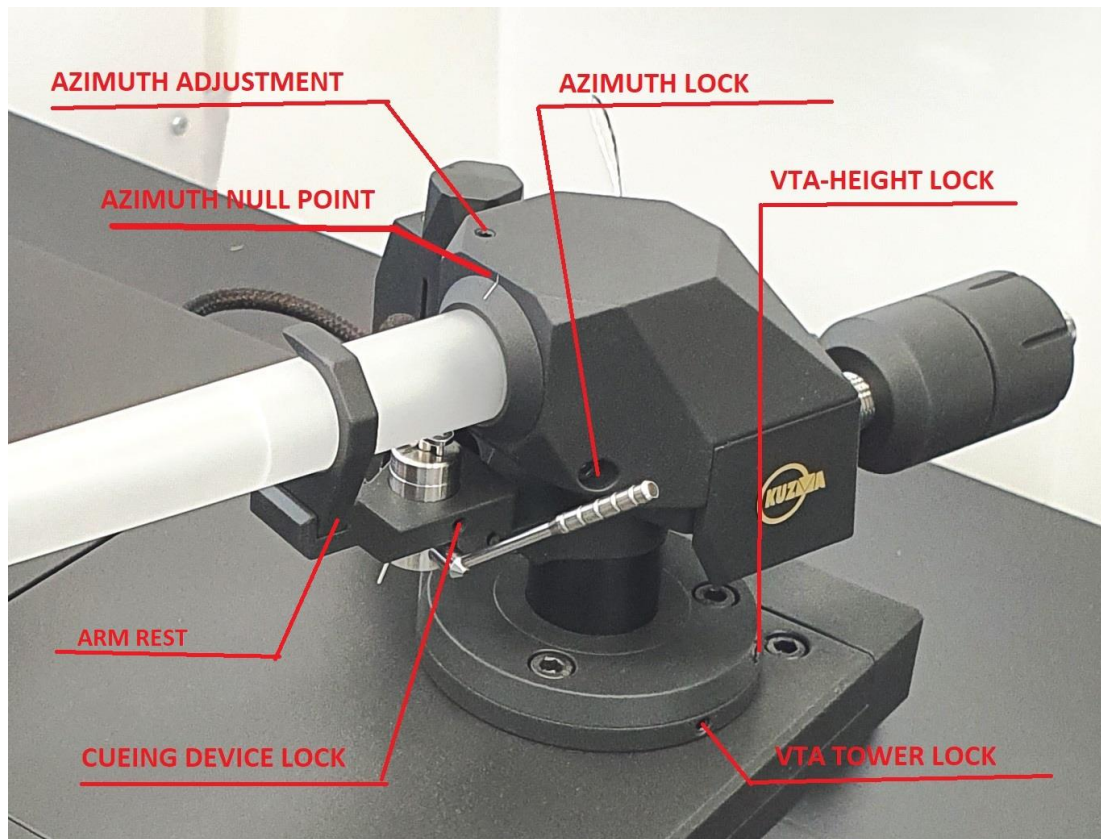

Fig. 2. Various adjustments
Assemble together arm base and VTA tower by using Allen key 2 mm. See position of VTA tower screw. (Fig. 2, 6&6a)
Change VTA on this tonearm by releasing the screw with Allen key 2 mm in the arm base. The VTA tower will keep its height position after the unlocking screw in the arm base. (Fig. 2&7b). Rotate VTA knob according to VTA changes. One rotation of the VTA knob CCW will raise VTA for 0.7 mm- that is about 0.1 deg change.
You might find that extreme VTA height causes problems with the height of the cartridge needle over the record so readjust cueing device height. (Fig. 2)
Should you find that in the 'up' position the cartridge tip is too low or too high above the record then the cueing device can be raised or lowered. (Fig. 2) This can be done simply by using Allen key 1,5 mm: